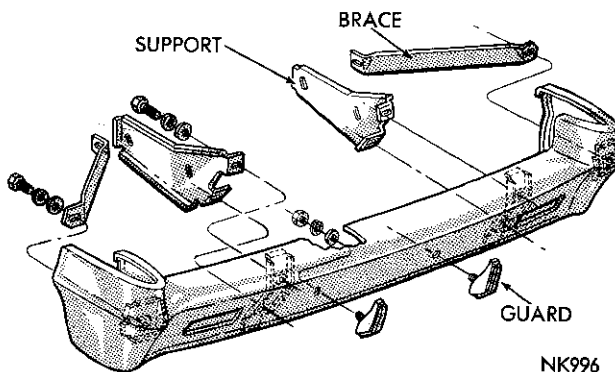

Fig. 1—Front Bumper (Chrysler)
- (1) Support the bumper at the center section and remove the bolts attaching the bumper supports and braces to the frame (Fig. 1).
- (2) Remove the bumper assembly.
- (3) Remove the support brackets, braces and bumper guards if the bumper face bar is to be replaced.